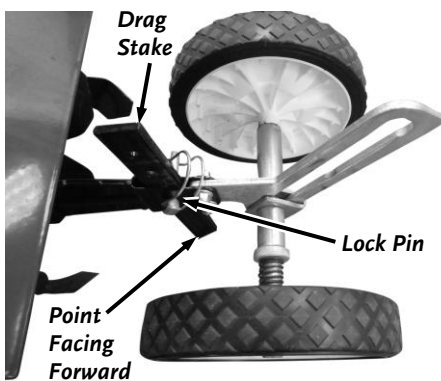

Figure 4
5. The Drag Stake shipped with its pointed end facing upwards. Remove the Lock Pin, turn the Drag Stake around and direct the point in the downward position facing towards the Tines, and then reinsert the Lock Pin (**Figure 4**).